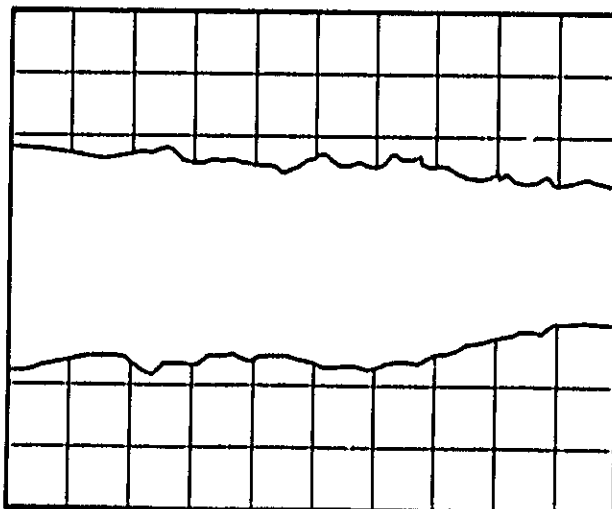

Figure 5-34. 10 MHz Marker Envelope at A8TP4
3. Select 100ms Sweep Time. Connect oscilloscope with 1:1 capacitive probe to A8TP4. Set 8350A/B power to +13 dBm and select 1 MHz Markers. Adjust A8R29 for the flattest envelope height (See Figure 5-34). Select 10 MHz Markers. Adjust A8R30 for the flattest envelope height. Select 50 MHz Markers. (This waveform appears like a comb.) Adjust A8R31 for the flattest envelope height. (Optimum setting for these adjustments will be ones that provide the most uniform height across the band. Especially note height at the high-frequency end and set the adjustment just before the slight rise drops off.)